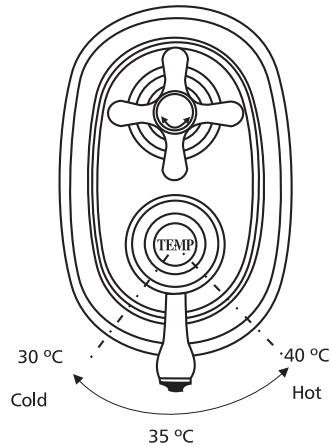

Figure 16
5. To increase the temperature, move the handle anticlockwise. See Figure 16